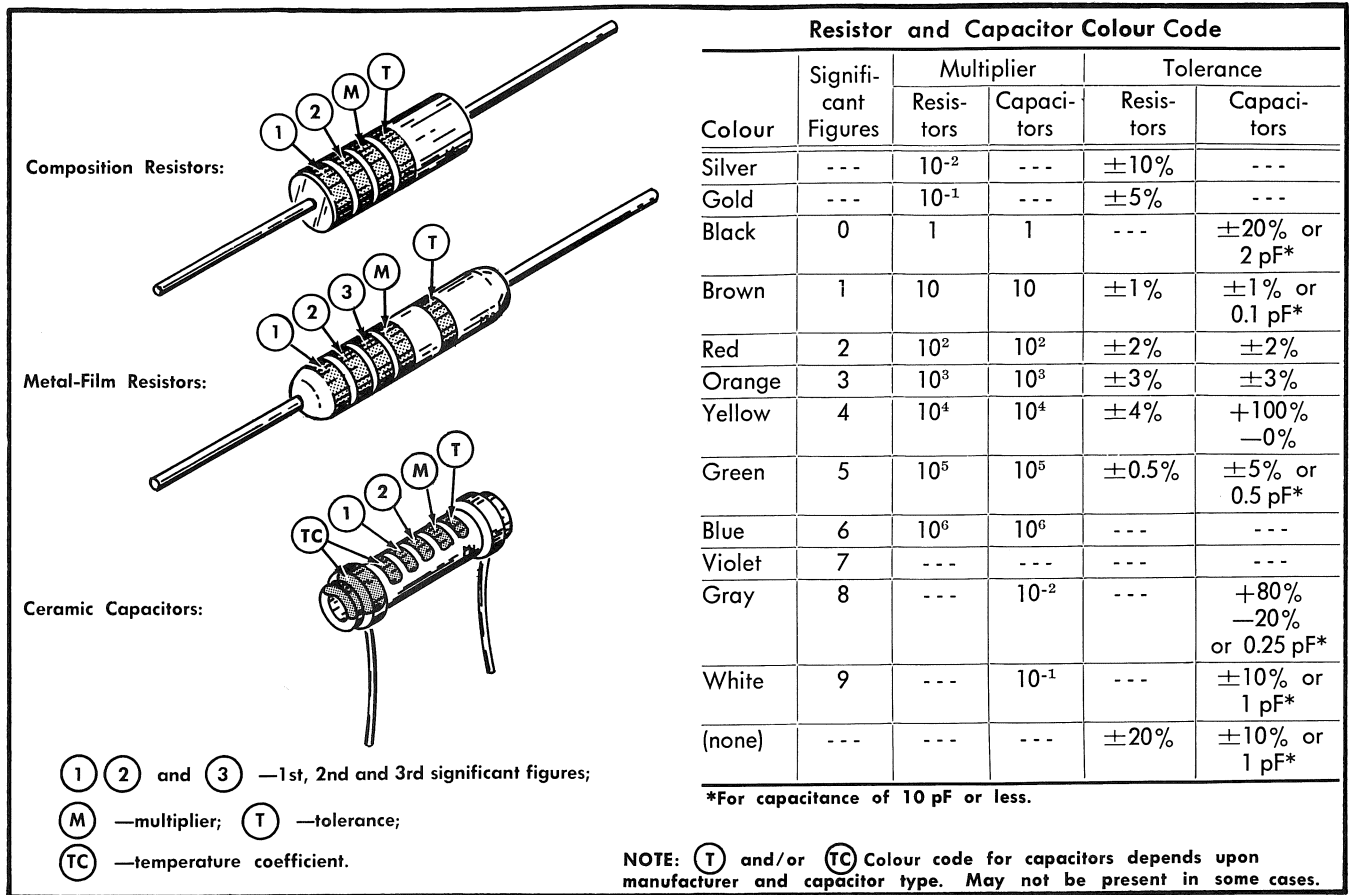

Fig. 4-3. Standard EIA colour coding for resistors and capacitors.
**Resistor Colour Code.** In addition to the brown composition resistors, metal film resistors (identifiable by their gray or light blue colour) are used in the Type R141A. The resistance value of composition and metal film resistors is colour-coded on the components with the standard EIA colour code. The colour code is read starting with the stripe nearest the end of the resistor. Composition resistors have four stripes consisting of two significant figures, a multiplier and a tolerance value. Metal-film resistors have five stripes which consist of three significant figures, a multiplier and a tolerance value (see Fig. 4-3).
**Capacitor Markings.** The capacitance value of a common disc capacitor or small electrolytic is marked in microfarads on the side of the component body. The white ceramic capacitors used in the Type R141A are colour-coded in picofarads using a modified EIA code (see Fig. 4-3).